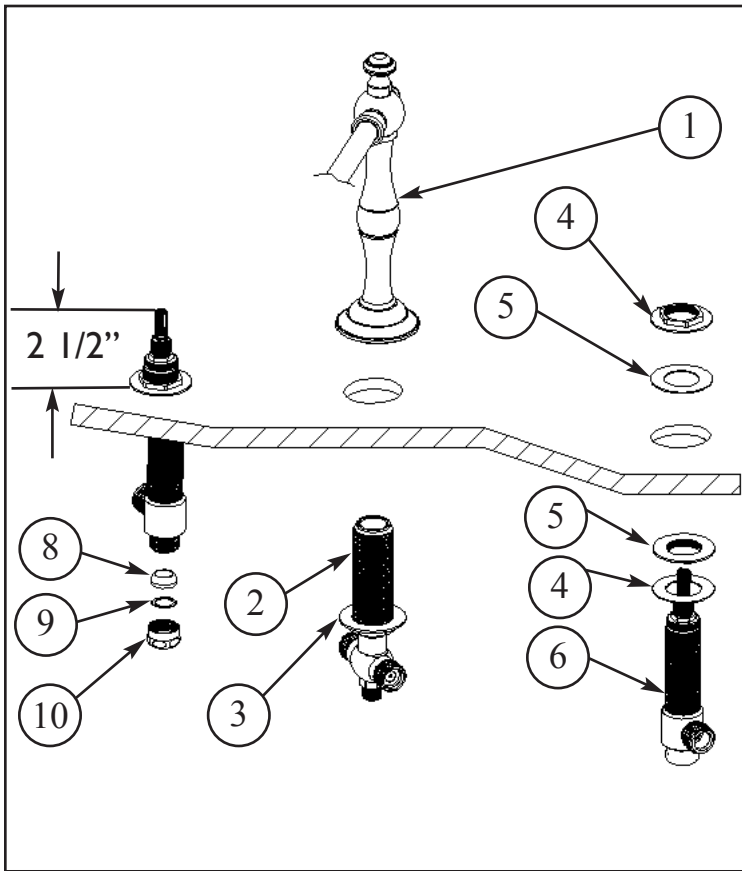

Figure 1
- Place the DIVERTER TEE (2) through sink hole of mounting surface. Thread DIVERTER TEE (2) into SPOUT (1). Secure SPOUT (1) into place with FLANGE NUT (3). See Figure 1.
- Place NUT (4) and WASHER (5) on VALVE BODY (6). Insert VALVE BODY (6), (blue = cold and red = hot), through hole in the mounting surface. Place WASHER (5) and NUT (4) onto top portion of VALVE (6). Adjust VALVE (6) to proper height of 2 1/2". See Figure 1.
- Attach hot/cold water supply hoses (not included) to appropriate valve utilizing CONE WASHER (8), FRICTION RING (9) and NUT (10) supplied. See Figure 1.